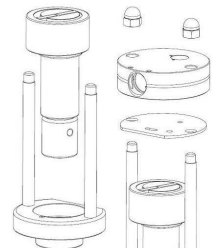

fig. 23
- Put-on the steering disc (check fixation!) and then valve head. (fig. 23)